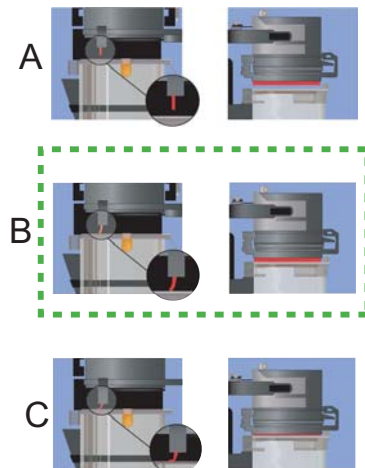

Figure 8-1
4. Check the position of the wipers on both filters, the wipers must rest slightly curved on the filter surface (*see figure 8-1*).